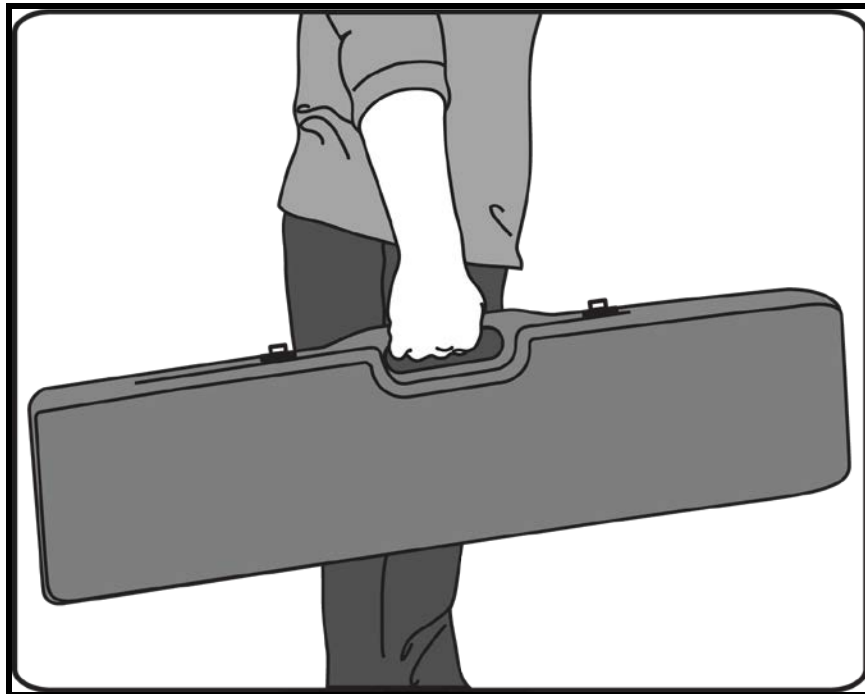

Figure 85. Lockable carrying/storage case
- a. Before obtaining a firearm, think about how you will carry it home and where you will keep it. Remember, when you leave the seller or dealer's shop, you will be carrying your firearm in a public place. It is recommended that all firearms be carried in a case or opaque container to avoid display in public (Figure 85). Consult your local authorities for details.